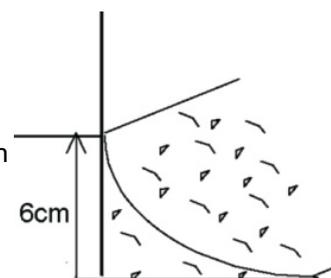

Fig. 4
6. Layer of masonry sand on the Inside of the Pool (Fig. 4))